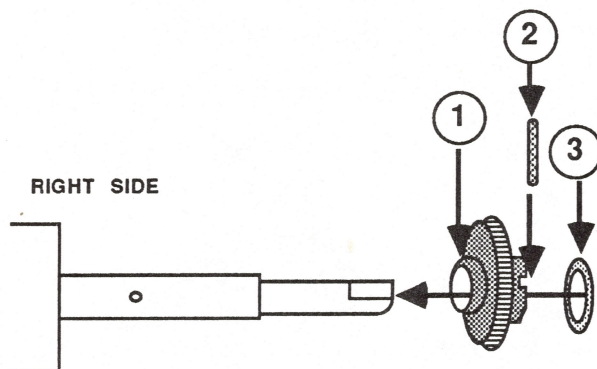

FIGURE 37
2. Assemble the right side of the platen (see Figure 37). Slide the drive gear (see Figure 37, #1) into position and insert the pin (see Figure 37, #2). Slide the platen spring into position (see Figure 37, #3).